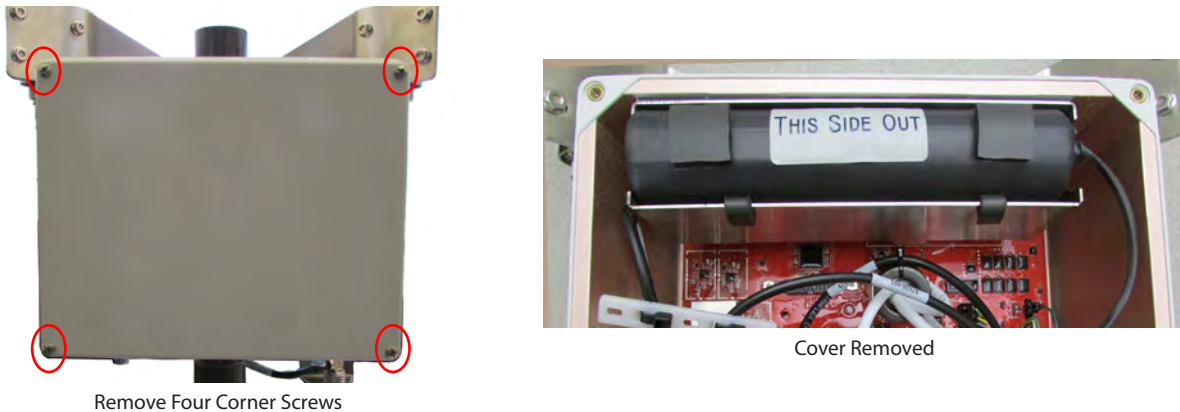

Figure 42: Enclosure cover removal
1. Using a #2 slotted or Phillips screwdriver, remove the enclosure cover by unscrewing four corner-cover screws (Figure 42). The cover will not be used again and can be discarded.